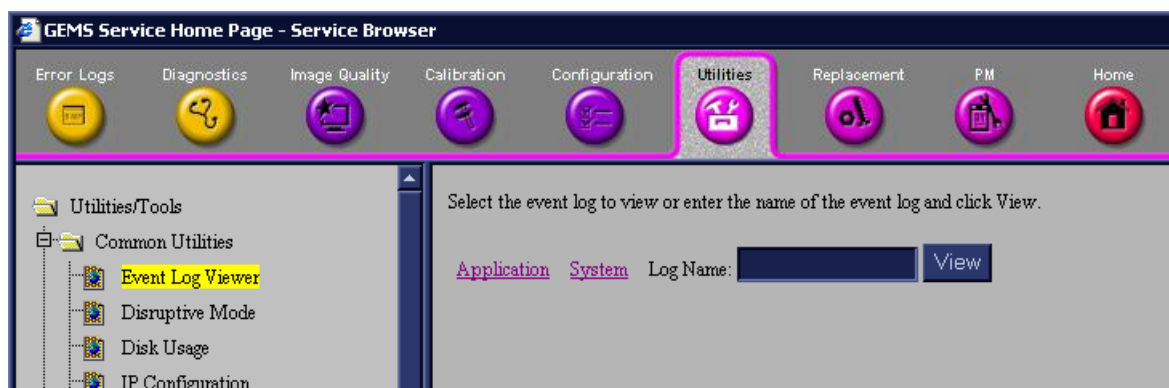

Figure 7-122 Event Log Viewer
- **Event Log Viewer** - see Figure 7-122.